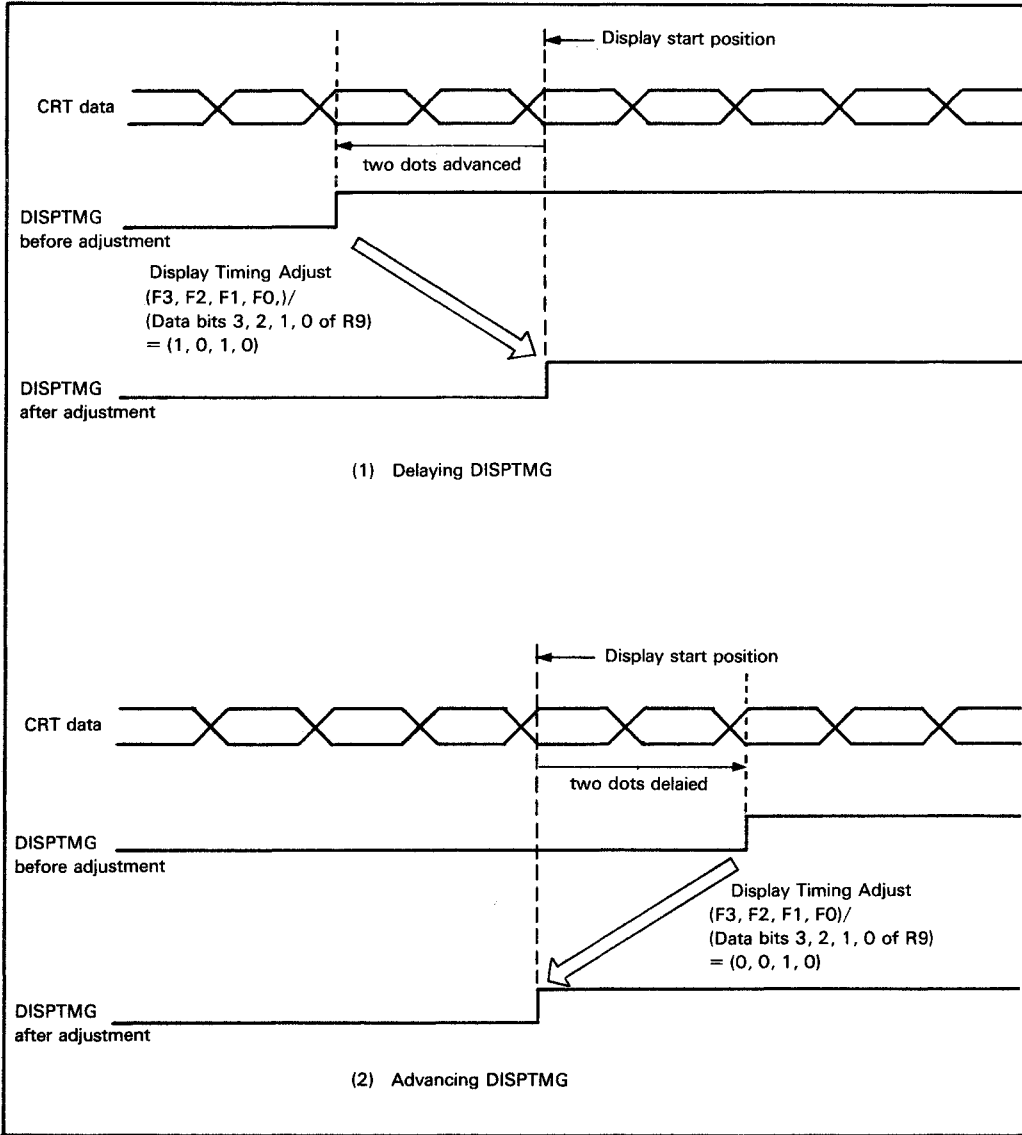

Figure 15. Adjustment of Display Timing Signal
Figure 15 shows examples of adjusting the display timing signal. Since the signal is two dots ahead of the display start position in case (1), (F3, F2, F1, F0) or (data bits 3, 2, 1, 0 of R9) should be set to (1, 0, 1, 0) to delay the signal for two dots. Since the signal is two dots behind the display start position in case (2), they should be set to (0, 0, 1, 0) to advance the signal for two dots. When there is no need to adjust the signal, settings of either (0, 0, 0, 0) or (1, 0, 0, 0) will do.